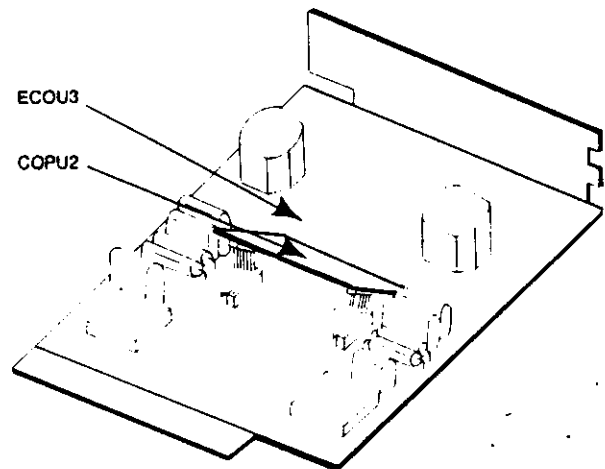

FIGURE 3—MOUNTING THE COPU PCB ON THE ECOU PCB
3.2 Mount a COPU PCB on each ECOU-3 as shown in **Figure 3**.